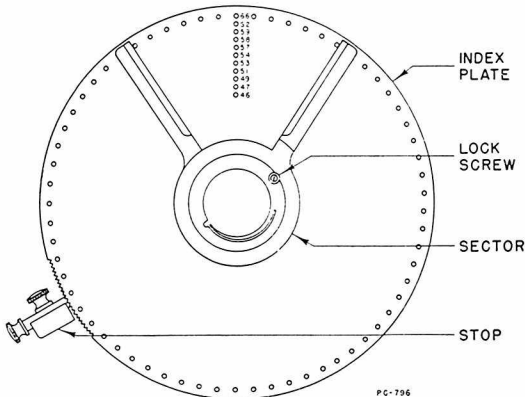

Figure 54A
The Sector. Index plates on all CINCINNATI Dividing Heads, have a sector for convenience in indexing. Figure 54A shows the sector set for 220 divisions, which requires that, for each division, the index pin moves over a series of twelve holes (spaces) in the 66-hole circle. The hole in which the index pointer rests, should not be counted when setting the sector. This factor is sometimes the source of a mistake in setting up dividing head work, and must not be overlooked.
Index Plate Stop. The index plate stop, Figure 54A, engages notches in the index plate, preventing it from rotating. If the Head is connected to the driving mechanism for a spiral or helical milling job, the index plate, sector, and crank rotate as a unit. For such a set-up, *the stop must be disengaged from the plate*. In other words, the stop should be engaged only when the Dividing Head is not connected to the power drive, as when milling spur gears, bolt heads, etc. The stop serves as a safety precaution in preventing mistakes which would occur if the index plate itself were moved slightly while indexing.
10. Withdraw the index plate stop (Figure 54A). The index plate must be free to revolve with the index pin. *Note*—The stop engaging the notches in the rim of the index plate should be engaged only when the Dividing Head is used without the driving mechanism.